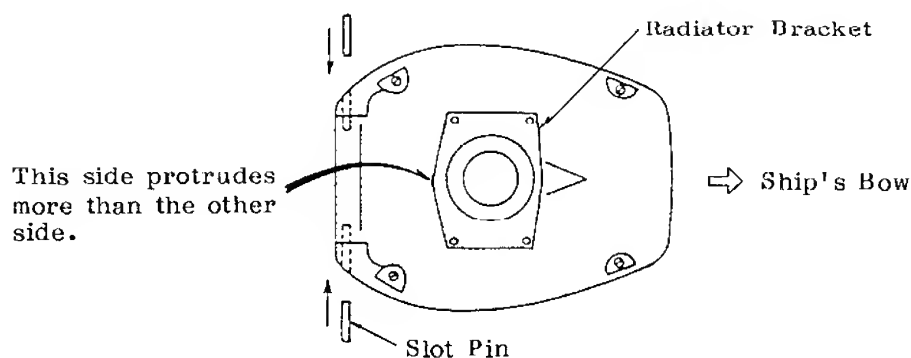
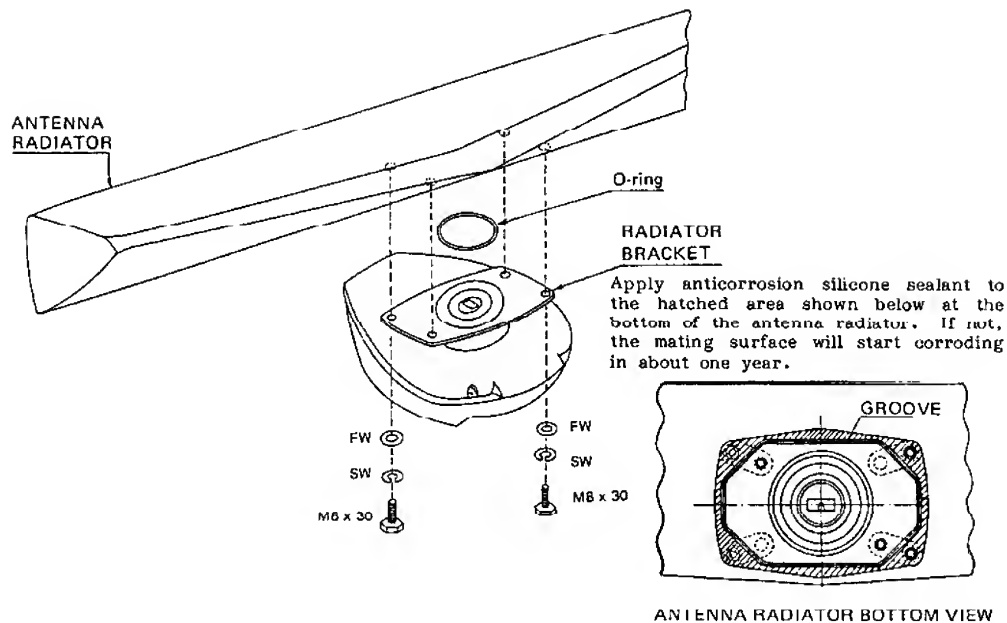

Fig.7 Slot Pin Insertion
Fig.8 Antenna Radiator Mounting
3. Now is the time to begin the procedure for fixing the radiator to the radiator bracket. Remove the red rubber cap on the radiator bracket and orientate the radiator bracket as shown in Fig.7. Referring to Fig.8, apply grease to the O-ring and set the O-ring to the center of the radiator bracket. Coat the radiator fixing bolts with silicone sealant. Fix the radiator to the radiator bracket with the FURUNO logo on the radiator facing ship's bow.